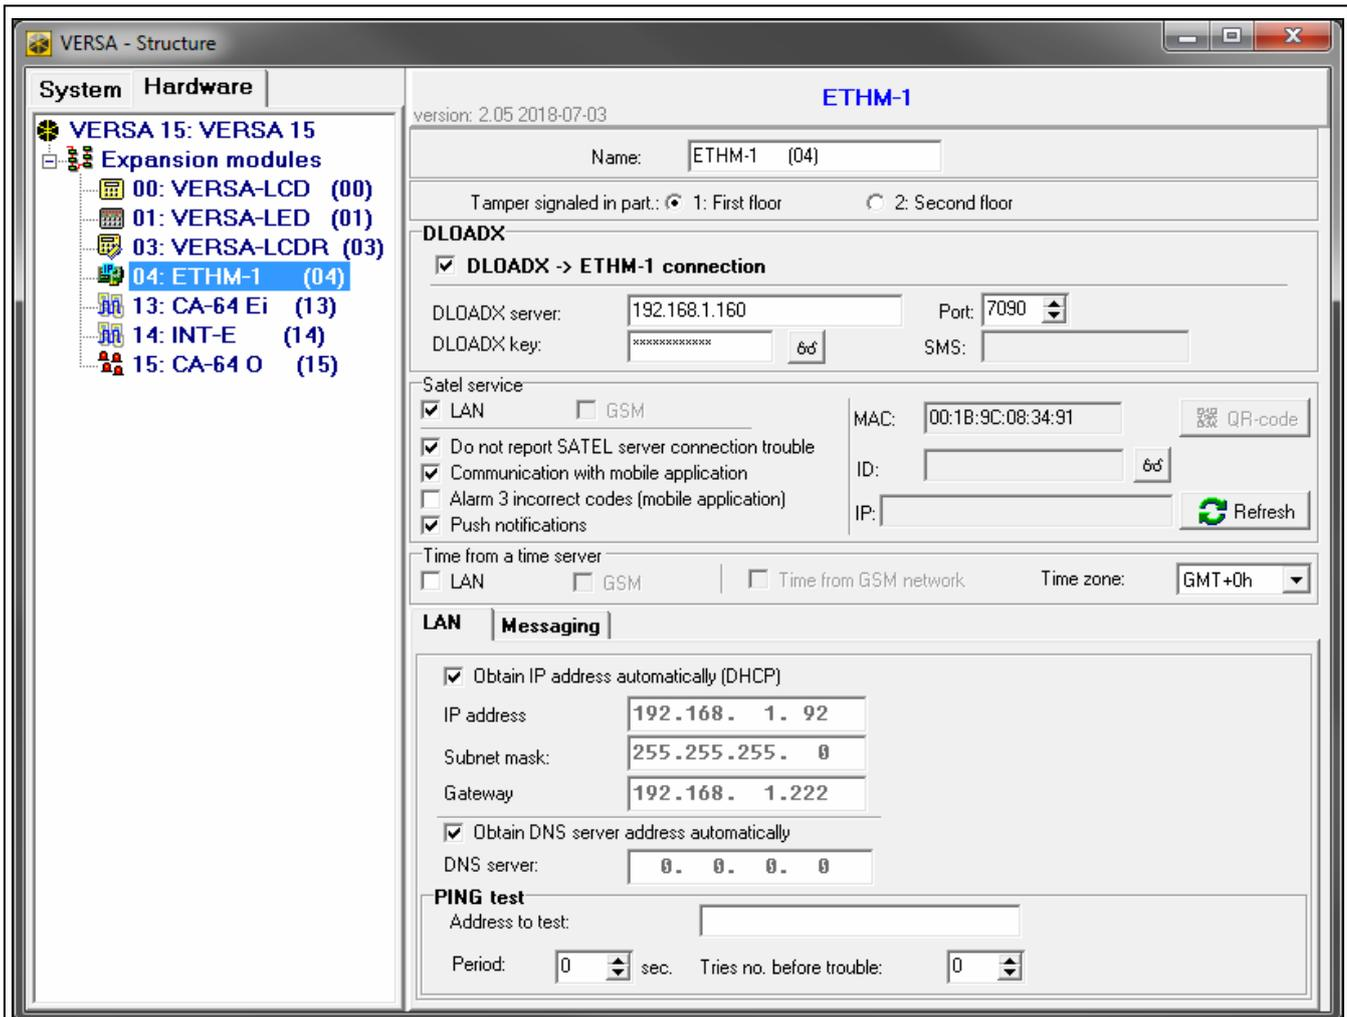

Fig. 12. DLOADX program: parameters and options of the module connected to VERSA control panel.
- DLOADX program: →“Versa – Structure” window →“Hardware” tab →“Expansion modules” branch →[module name] (Fig. 12).